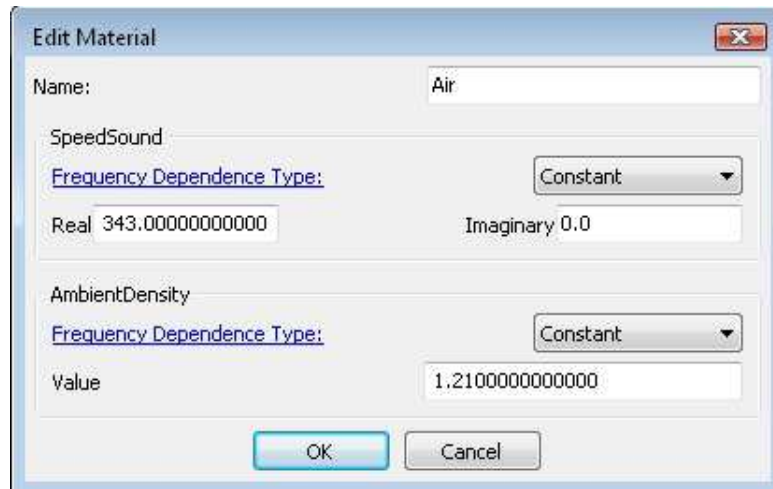

Figure 9.14: Edit material properties.
- In the main model menu select: **Model** → **Materials** → **Air**. Right-click on **Air** and select **Edit....** Figure 9.14 will appear.